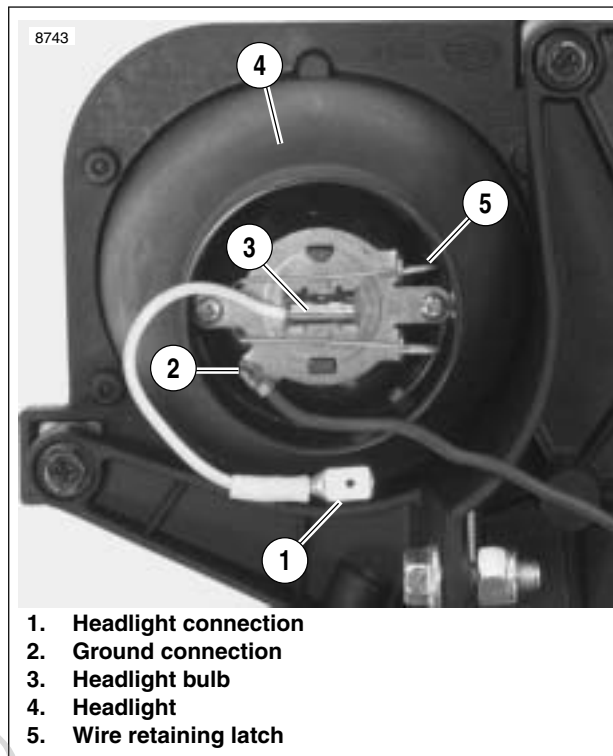

Figure 7-46. Headlight Bulb
2. See Figure 7-46. Disconnect headlight connection (1).
3. Release wire retaining latch (5) from headlight housing clips.
1. See Figure 7-46. Align tabs on bulb (3) with tabs on headlight (4). Insert bulb.
2. Close the wire retaining latch (5).